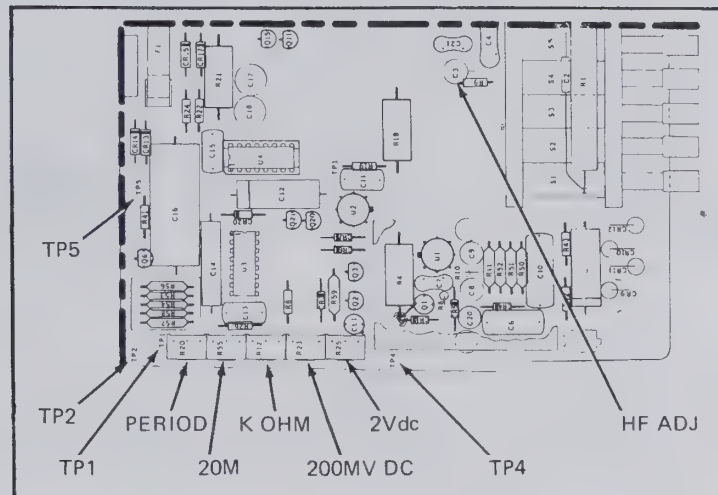

Figure 4-1. ADJUSTMENT AND TEST POINT LOCATIONS
- b. Connect a frequency counter, set for period measurement, between TP5 (see Figure 4-1) and COMMON (or TP4).
4-33. Refer to Figure 4-1 for the location of the range adjustments. Table 4-3 lists the order of the adjustments and cardinal check points. Apply the inputs listed and adjust or check for in-limits indications.